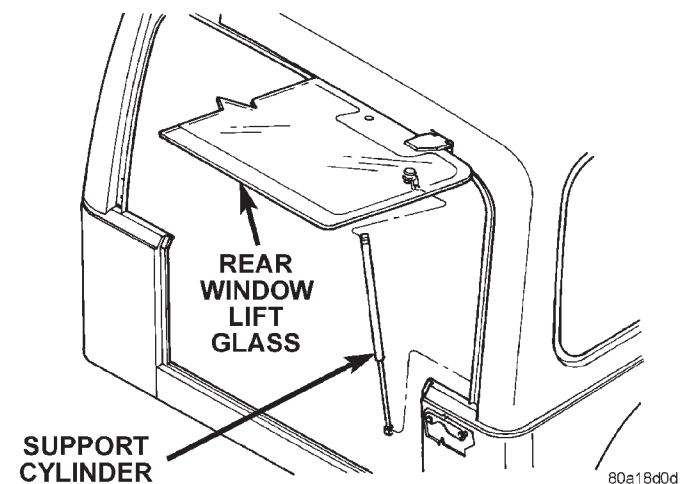

Fig. 75 Support Rod Cylinder Removal
- (3) Pull the support rods off the ball studs (Fig. 75).